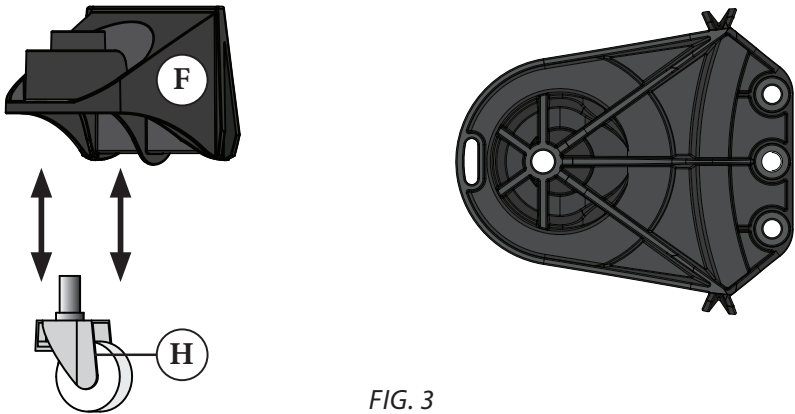

FIG. 3
Insert the Casters (H) into the Caster Mounts (F). Apply pressure and twisting motion until Wheels snap into place [FIG. 3].